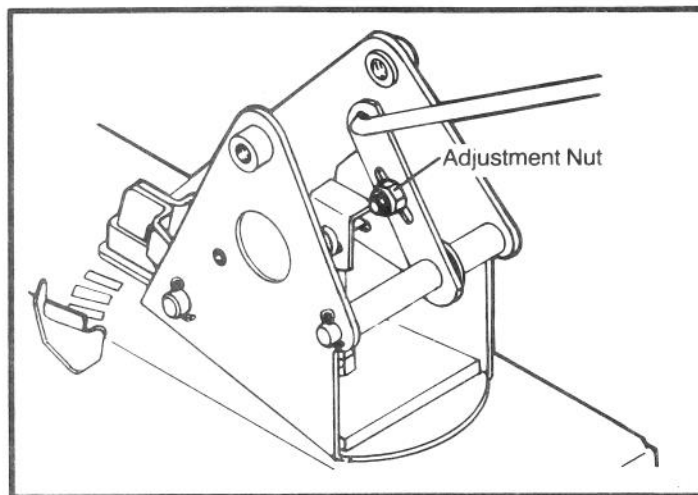

FIGURE 8
The clutch control lever is pre-set for neutral shift position. An adjustment means is provided, however, to center the clutch control lever in the slot on the handle shroud should it become necessary due to wear. This adjustment is located at the handle pivot point (Fig. 8).
2. Loosen the adjustment nut (Fig. 8).
4. Retighten the adjustment nut (Fig. 8).